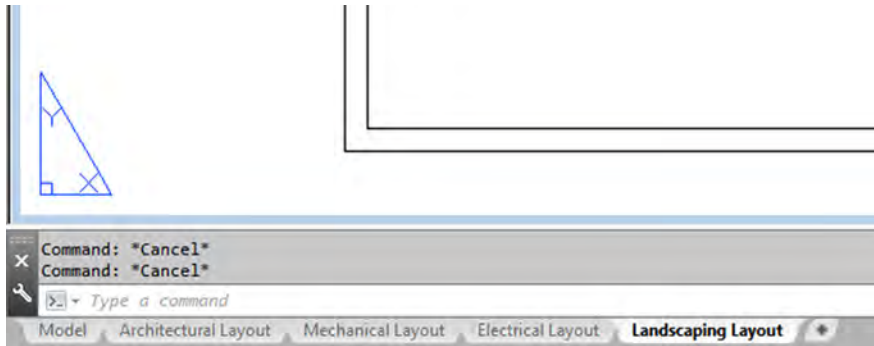

FIGURE 10.12
places the new title sheet next in line after the existing Architectural Layout and may be important later when it comes to the printing order. Finally, click on OK and observe what happens with the tabs. A new one appears, saying Architectural Layout (2), and it is a perfect copy of the previous existing tab. Go ahead and rename it Mechanical Layout. Repeat the whole procedure to create a third tab, called Electrical Layout, and finally a fourth tab, called Landscaping Layout. The final result is in Figure 10.12.